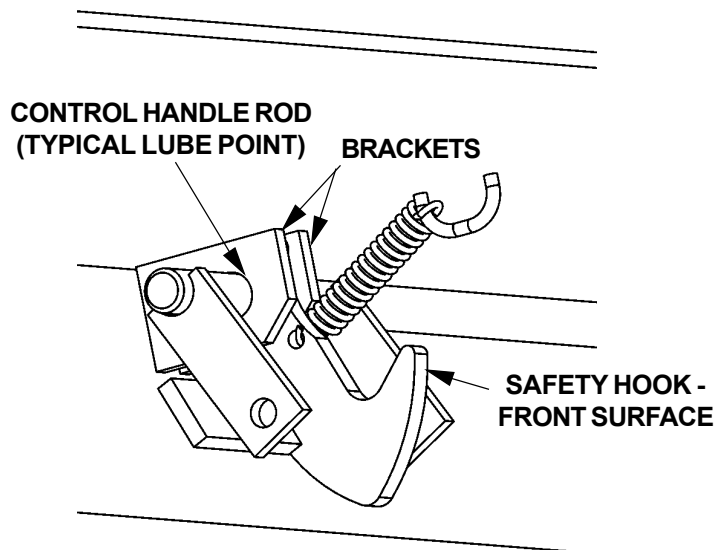

FIG. 16-2
1. Make sure front surface of Safety Hook **FIG. 16-2** is lubricated with automotive grease. Apply grease if required.
2. Make sure Control Handle rod (**FIG. 16-2**) is lubricated where it has contact with brackets. Apply automotive grease if required.